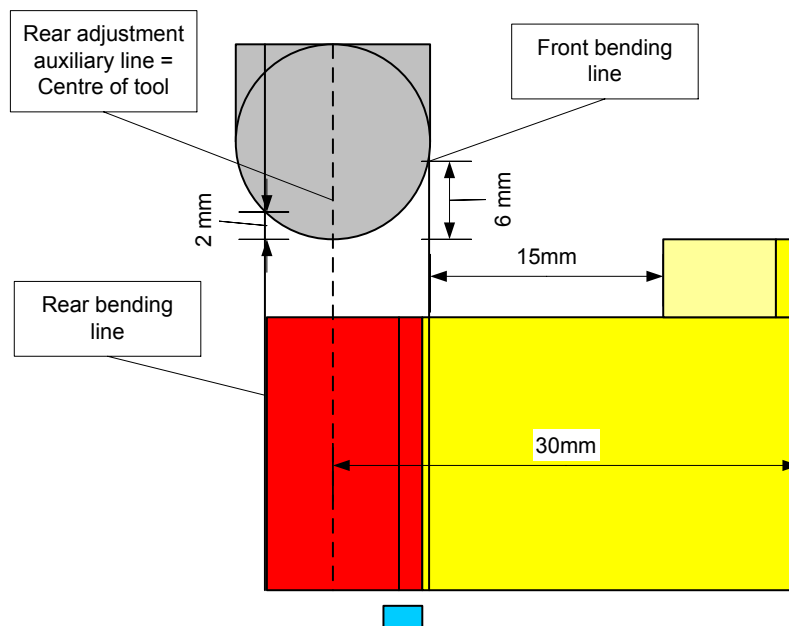

Fig. 5: Protected field³ for radii of tool class 1 (max. 25mm radius)
- ▶ Semi-circular tools (radius between 2 and 25mm), see Fig. 5.
- ▶ On flat tools (front surface > 45°), the front bending line is at the front of the tool, at a height of 6mm (see Fig. 5).